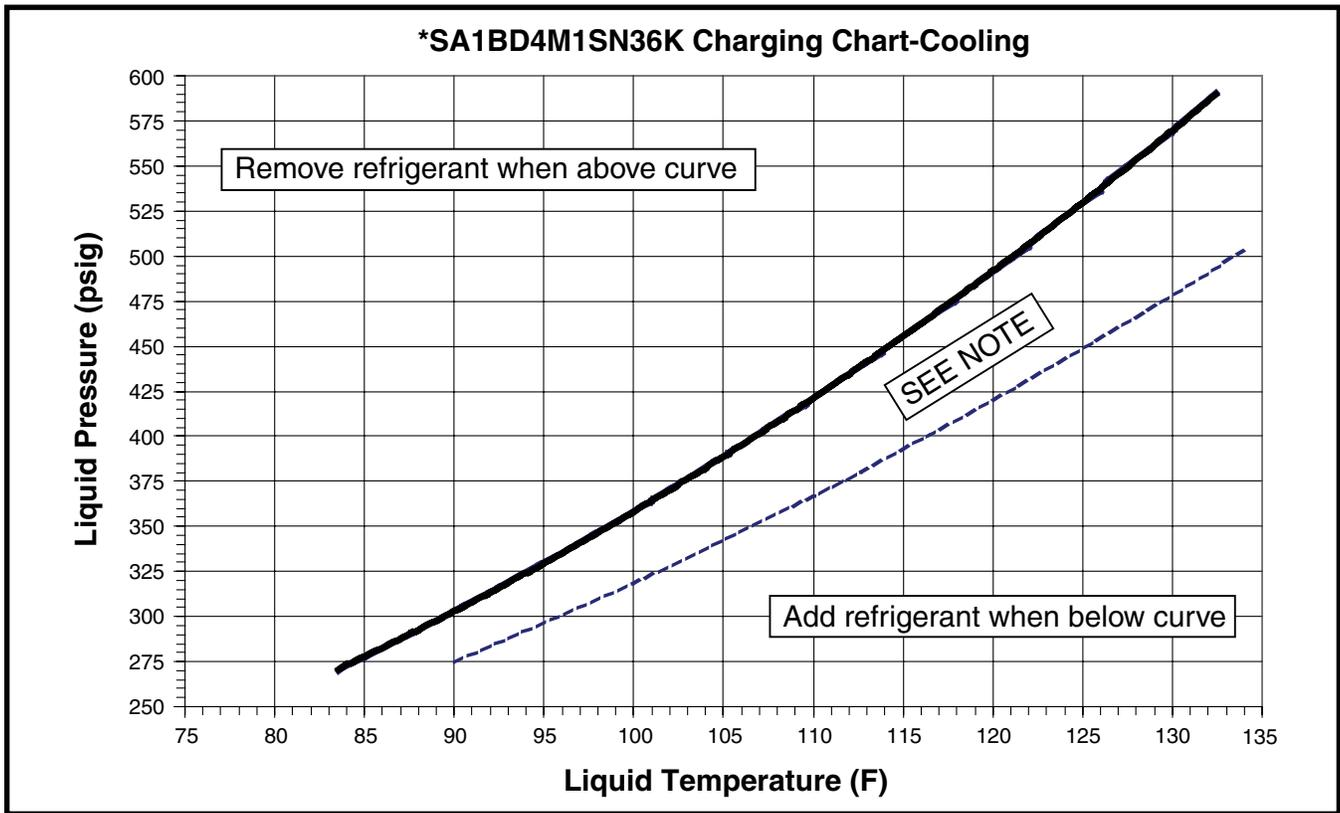
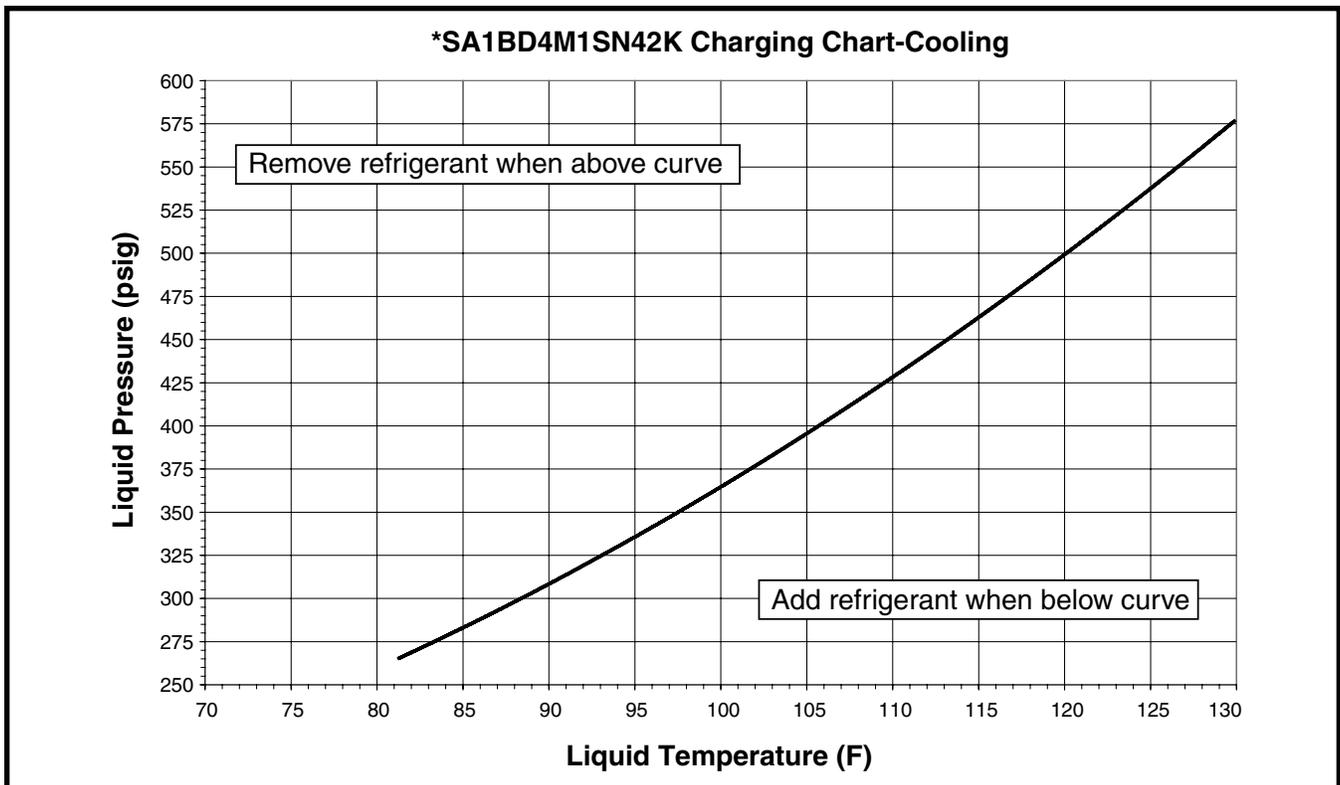
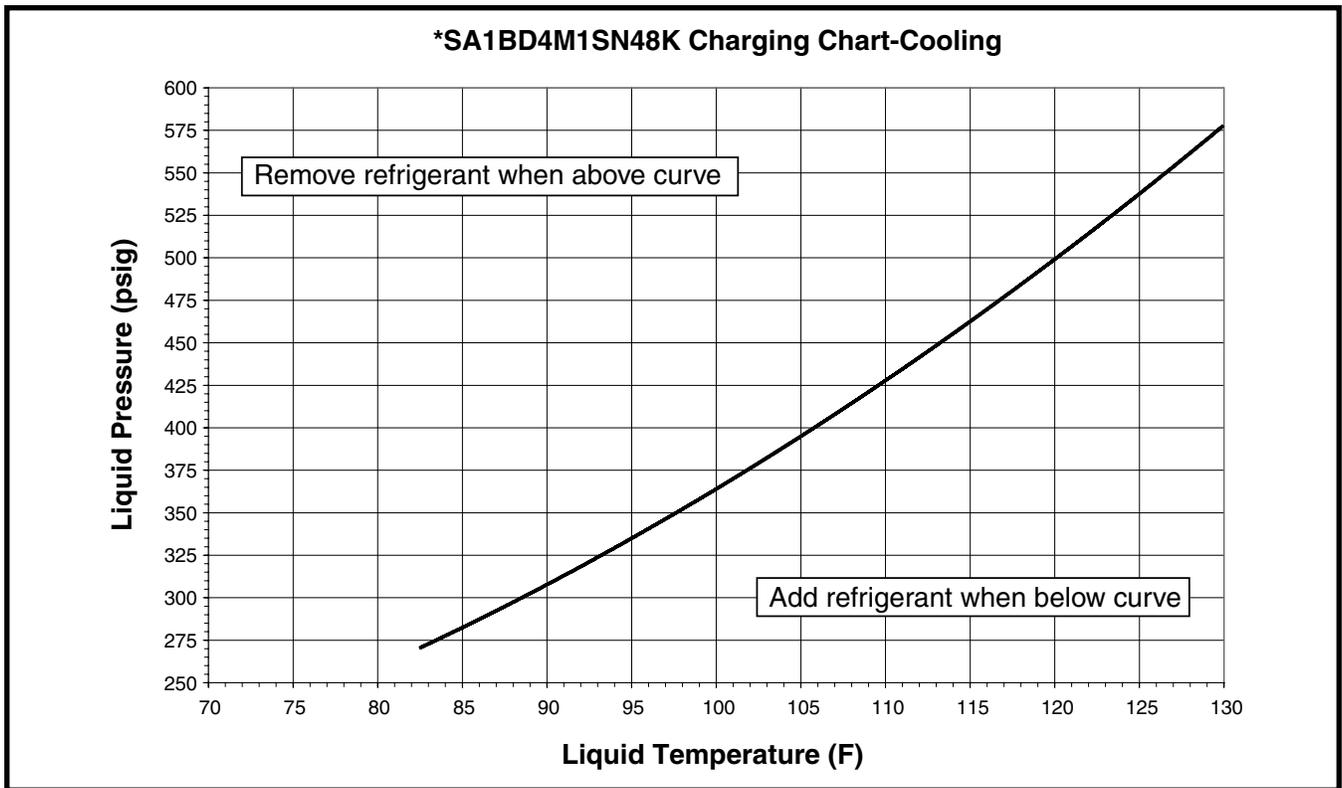
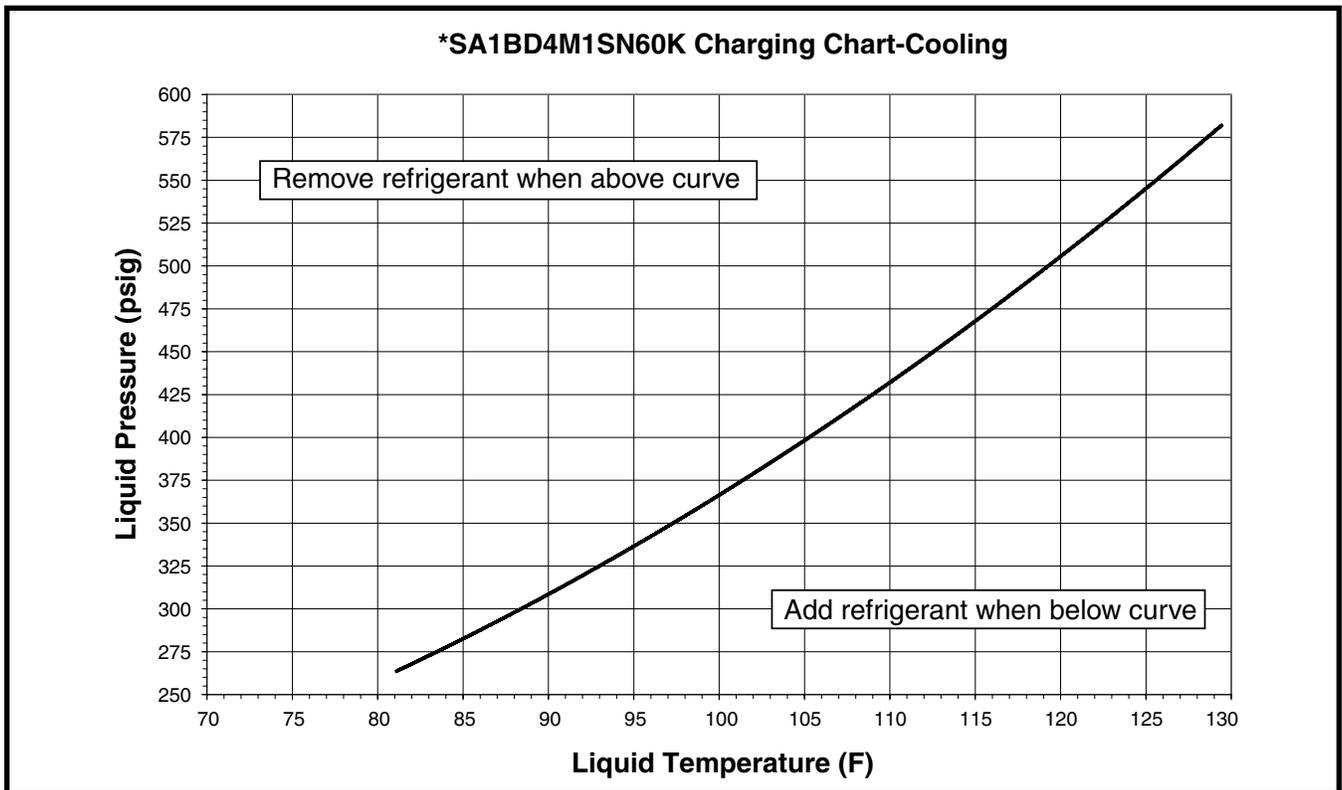

**Figure 6. Charging Chart for 2 Ton Models
**Figure 7. Charging Chart for 2.5 Ton Models
**Figure 8. Charging Chart for 3 Ton Models
**Figure 9. Charging Chart for 3.5 Ton Models
- Refrigerant charging charts are applicable only to matched assemblies of NORDYNE equipment and listed airflows for the indoor coil. Refer to Figure 5, page 9, Figure 6, page 10, Figure 7, page 10, Figure 8, page 11 & Figure 9, page 11, Figure 10, page 12, & Figure 11, page 12, and Table 3, page 13, Table 4, page 13, Table 5, page 14, Table 6, page 14, Table 7, page 15, Table 8, page 15, & Table 9, page 16 for correct system charging.
3. Determine the required liquid refrigerant pressure from the appropriate charging chart. See Figure 5, page 9, Figure 6, page 10, Figure 7, page 10, Figure 8, page 11 & Figure 9, page 11, Figure 10, page 12, & Figure 11, page 12.
- Charging charts are valid for a variety of indoor, return air conditions and are most influenced by the outdoor ambient temperature, outdoor fan operation and the unit operating voltage. Before using these charts, make sure the unit is in a stable operating mode. As shown in Figure 5, page 9, Figure 6, page 10, Figure 7, page 10, Figure 8, page 11 & Figure 9, page 11, Figure 10, page 12, & Figure 11, page 12, the ideal system sub-cooling can vary over the range of operation. Reference the charts to determine the ideal amount of sub-cooling for a given liquid pressure. Units charged to other values will not perform at the rated unit efficiency (EER) or rated Coefficient of Performance (COP) in heating mode.